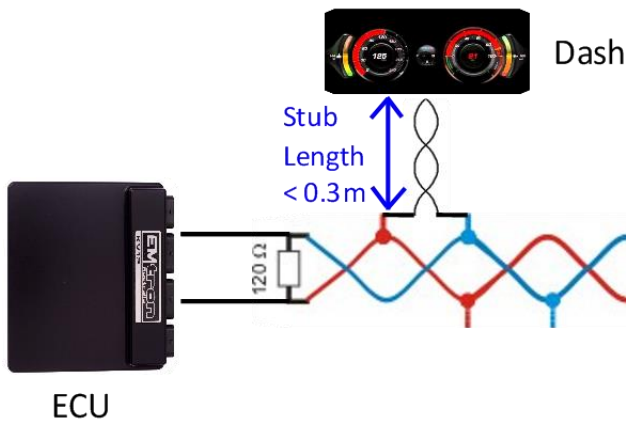

Figure 3.3. CAN Bus Wiring Example. Stub Length less than 0.3m
- Maximum Stub length to a device from the main Bus is recommended at 0.3m, in accordance with High-Speed ISO 11898 Standard specification. See Figure 3.3.